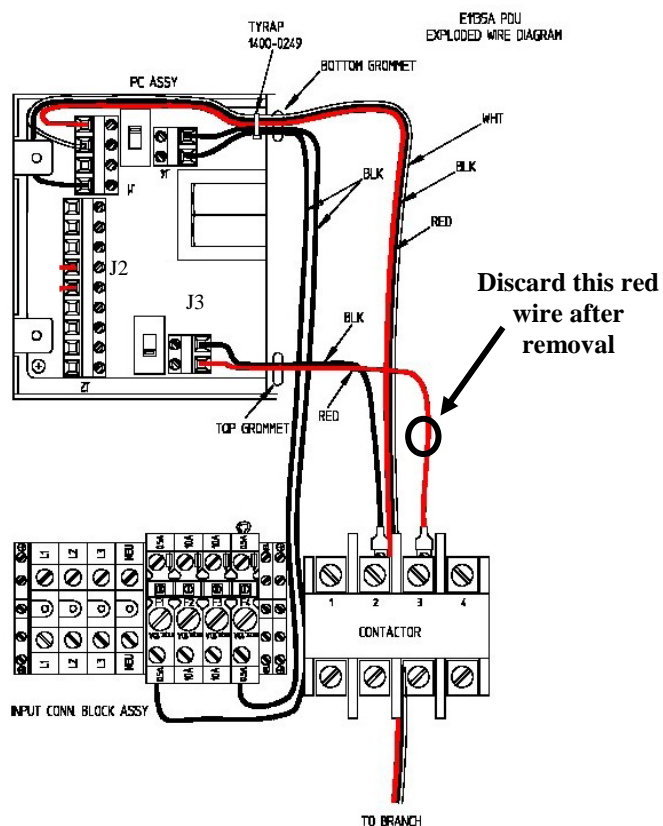

Fig 9
8. Remove the wires from the control board by using a small flat blade screwdriver. (Fig 9)